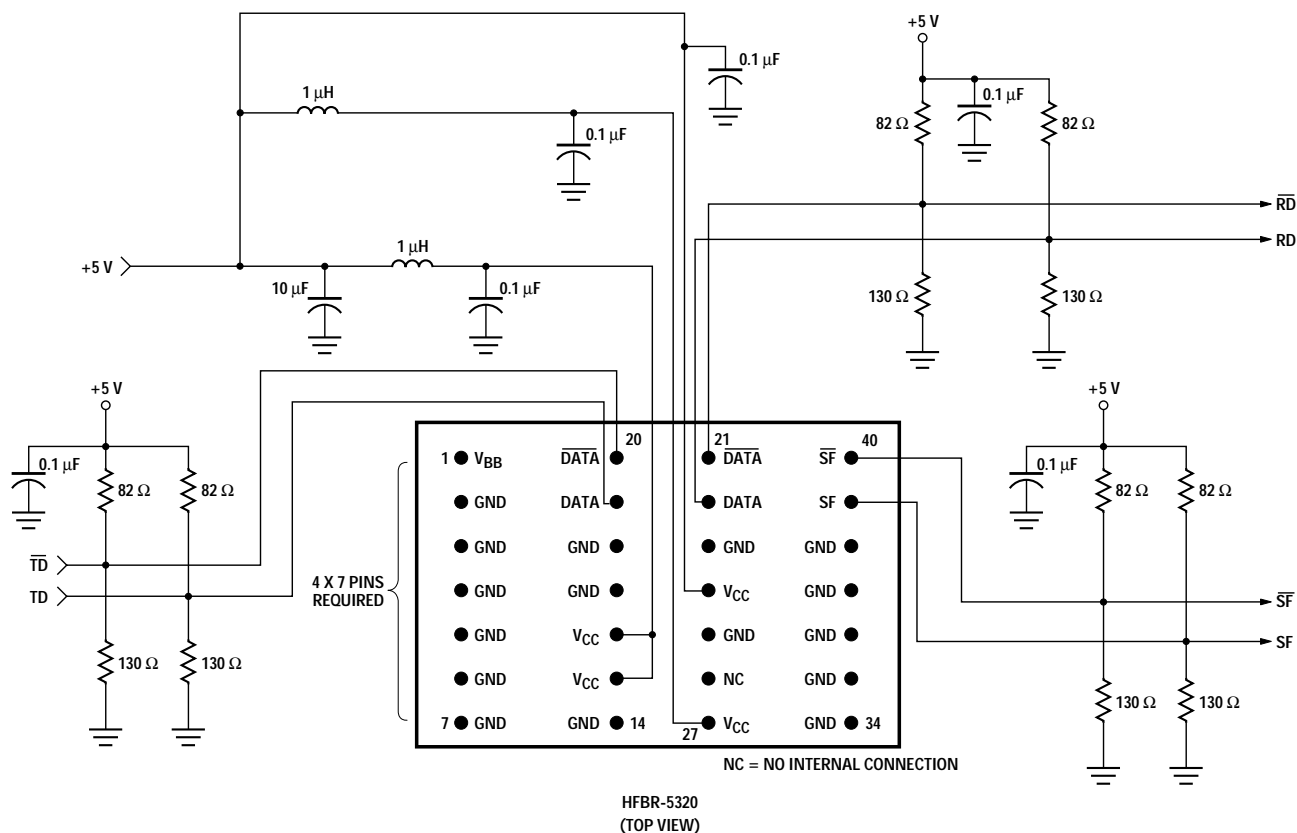

Figure 3.
2. Terminal transmitter input Data and Data-bar at the transmitter input pins. Terminate the receiver Output Data, Data-bar, Status Flag, and Status Flag-bar at the follow-on device input pins. For lower power dissipation in the Status Flag termination circuitry with small compromise to the signal quality, each Status Flag output can be loaded with 510 Ohms to ground instead of the two resistor, split-load PECL termination shown in the Figure 3 schematic.